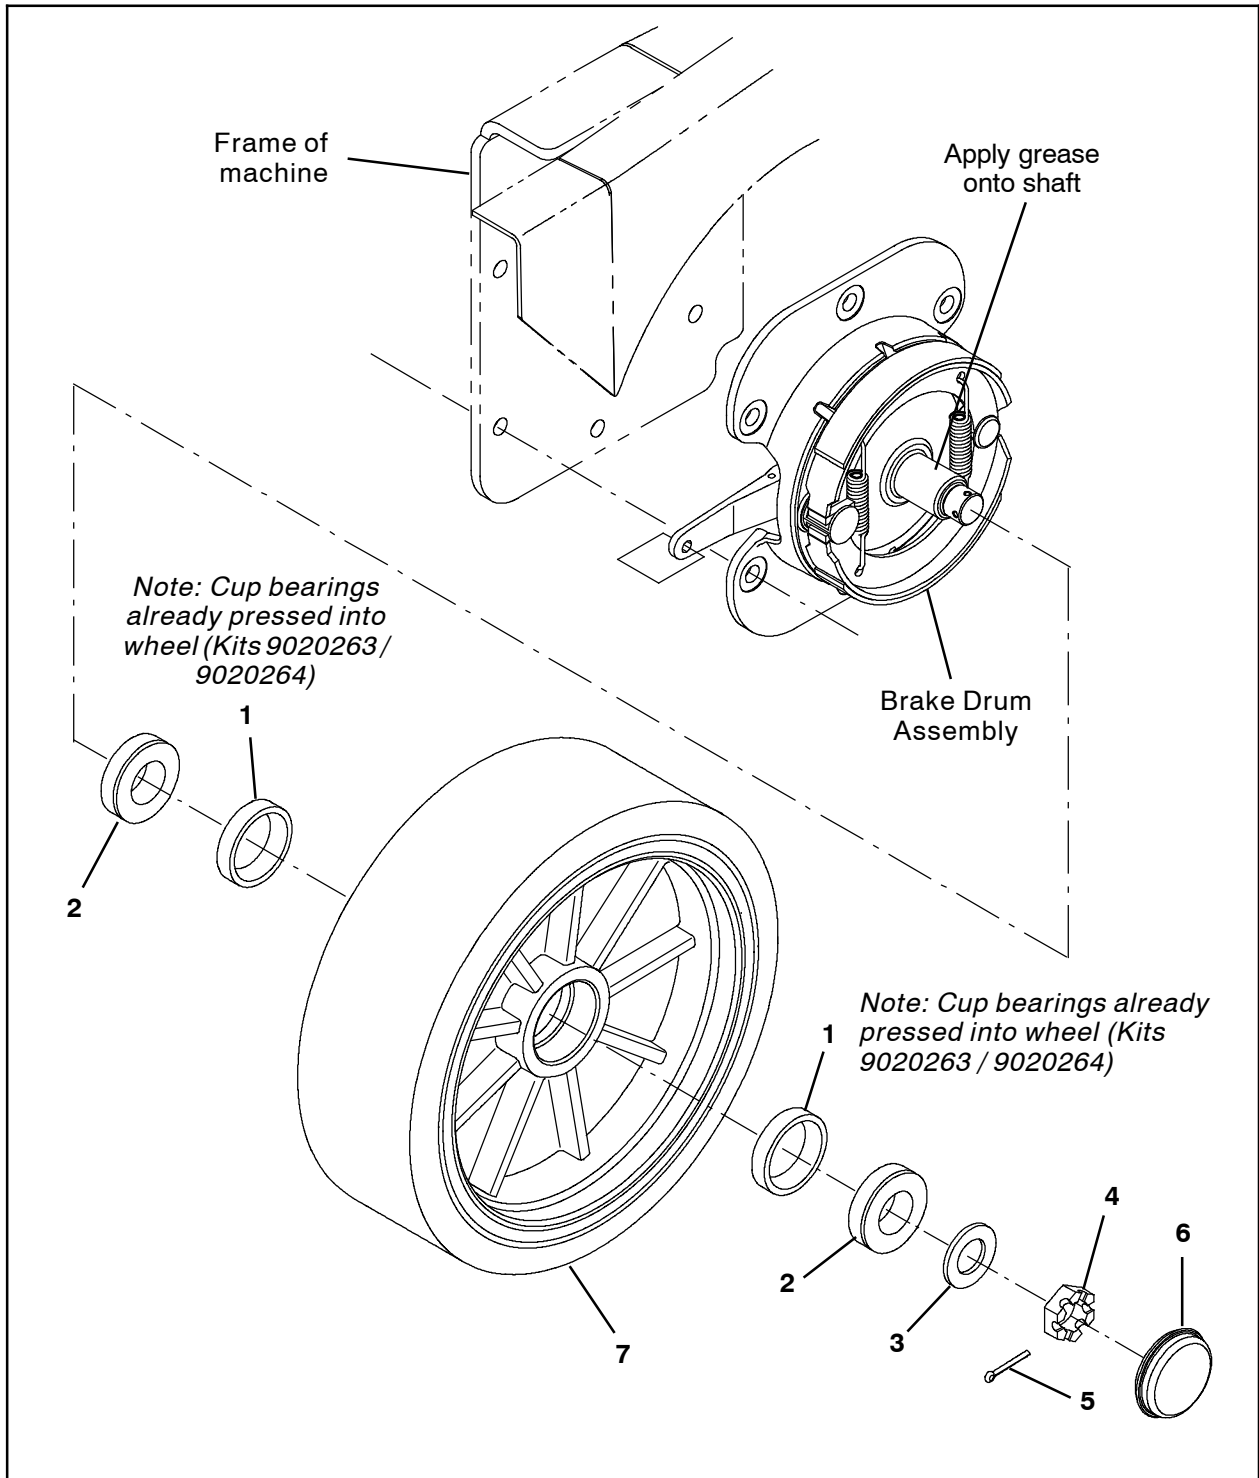

FIG. 1
1. Remove the rear wheel assembly from the machine. Discard the rear wheel, cup bearings, cone bearings, flat washer, slotted nut, cotter pin, and cap. (Fig. 1)
2. Apply grease onto the shaft of the brake drum assembly and both cone bearings (2). (Fig. 1)
3. Insert both cone bearings (2) into the wheel (6). (Fig. 1)
4. Install the wheel (7) onto the brake drum assembly. (Fig. 1)
5. Install the flat washer (3) onto the brake drum assembly. (Fig. 1)
6. Torque the slotted hex nut (4) onto the brake drum assembly. Torque the slotted hex nut to 11 ft. lbs. (14.91 Nm). (Fig. 1)
7. Use the cotter pin (5) to secure the slotted hex nut (4) into place on the brake drum assembly. (Fig. 1)
8. Install the dust cap (6) onto the wheel assembly. (Fig. 1)
1. Remove the rear wheel assembly from the machine. Discard the flat washer, slotted nut, cotter pin, and cap. (Fig. 1)
2. Remove the cup bearings / cone bearings from the wheel. Set the wheel aside. Discard the cup bearings / cone bearings. (Fig. 1)
3. Use appropriate tools to carefully install both cup bearings (1) into the wheel. **DO NOT** damage the cup bearings when installing them into the wheel. (Fig. 1)
4. Apply grease onto the shaft of the brake drum assembly and both cone bearings (2). (Fig. 1)
5. Insert both cone bearings (2) into the wheel. (Fig. 1)
6. Install the wheel onto the brake drum assembly. (Fig. 1)
7. Install the flat washer (3) onto the brake drum assembly. (Fig. 1)
8. Torque the slotted hex nut (4) onto the brake drum assembly. Torque the slotted hex nut to 11 ft. lbs. (14.91 Nm). (Fig. 1)
9. Use the cotter pin (5) to secure the slotted hex nut (4) into place on the brake drum assembly. (Fig. 1)
10. Install the dust cap (6) onto the wheel assembly. (Fig. 1)